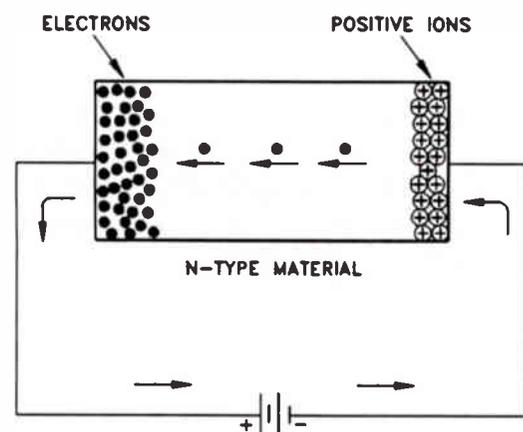

Figure 6. N-type crystal with voltage applied to it.
**N-Type Materials.** Figure 6 shows an n-type crystal with a voltage applied to it. The voltage difference supplied by the battery provides a force that makes it easier for the electrons to move in one direction than in the other. The electrons are attracted by the positive terminal of the battery. Because the electrons greatly outnumber the holes, they will carry the current in the n-type material.
When an electron moves away from its covalent bond toward the positive battery terminal, it leaves behind an atom with a positive charge, called a *positive ion*. The electrons moving toward the positive battery terminal create a region with a local negative charge, as shown in Fig.6. This negative charge establishes a *potential difference* between that end of the crystal and the positive terminal of the battery. In other words, the attraction of the positive battery terminal causes electrons to bunch up near the end of the crystal connected to the positive terminal and flow into the wire toward the voltage source.